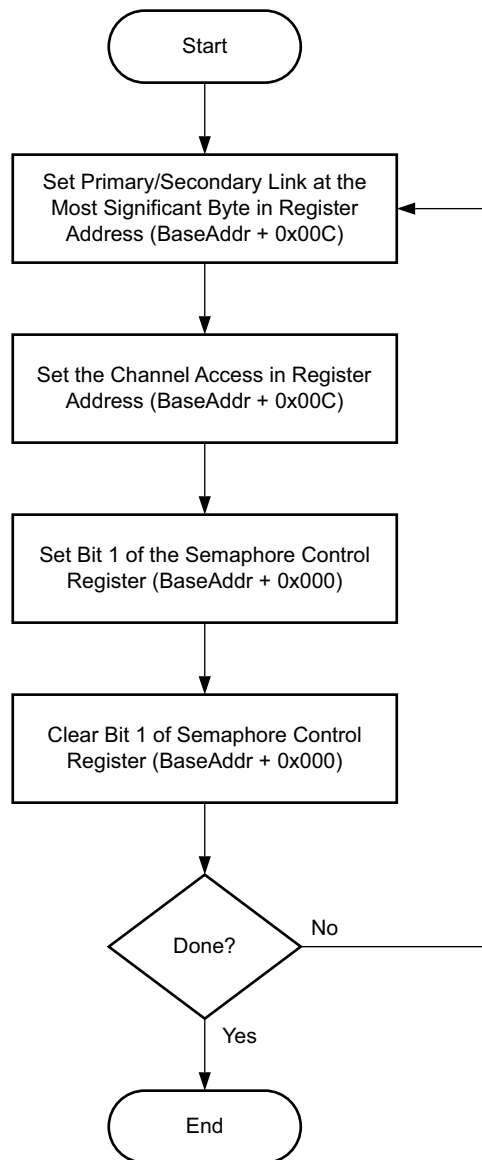

Figure 5: Channel Register Configuration Flow Chart
5. Repeat step 1 through step 4 for another channel or registers (see Figure 5).
For the general registers, normal address read and write access is applied. For the channel registers, use the same method described in the SMPTE 2022-1/2 Video Over IP Transmitter section. See Figure 5.